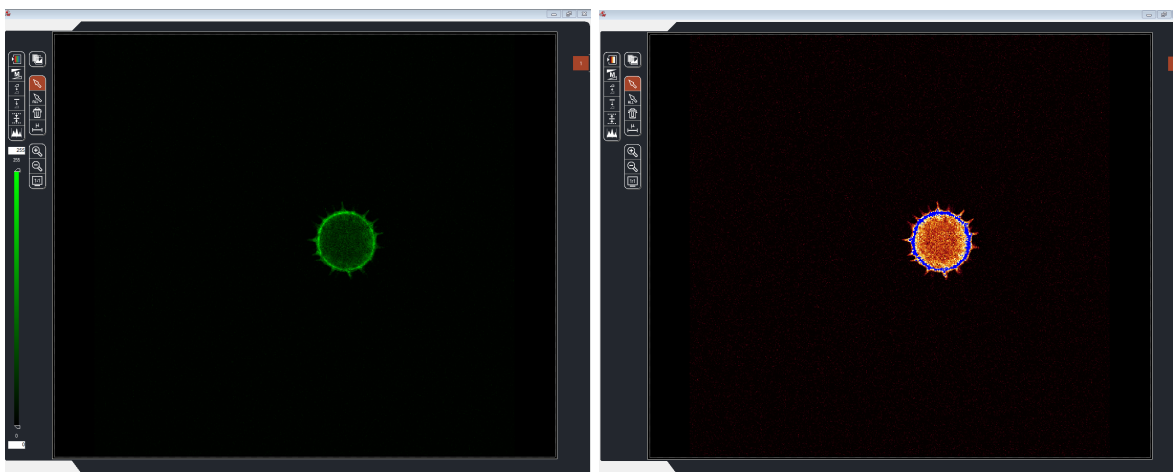

Figure 9: Left: Pseudo-color look up LUT. Right: Over/under saturation LUT with over saturated pixels in blue.
8. Select **Quick LUT** (look-up table) on the upper left-hand side to cycle through display options. See Figure: 9